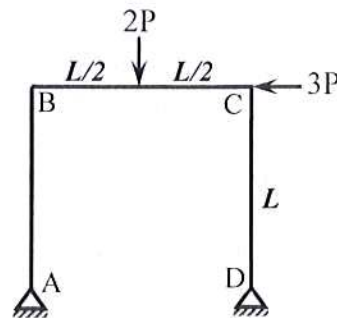

Fig.2
2. Analyze the frame in Fig.2 by Force Method and determine the support reactions. Consider the horizontal reaction at **A** as redundant [ $P= 68\text{-kips}$ ,  $L= 28\text{ ft}$  for Even Rolls or  $P= 47\text{-kips}$ ,  $L= 37\text{ ft}$  for Odd Rolls and  $EI=\text{Constant}$ ]. [16]